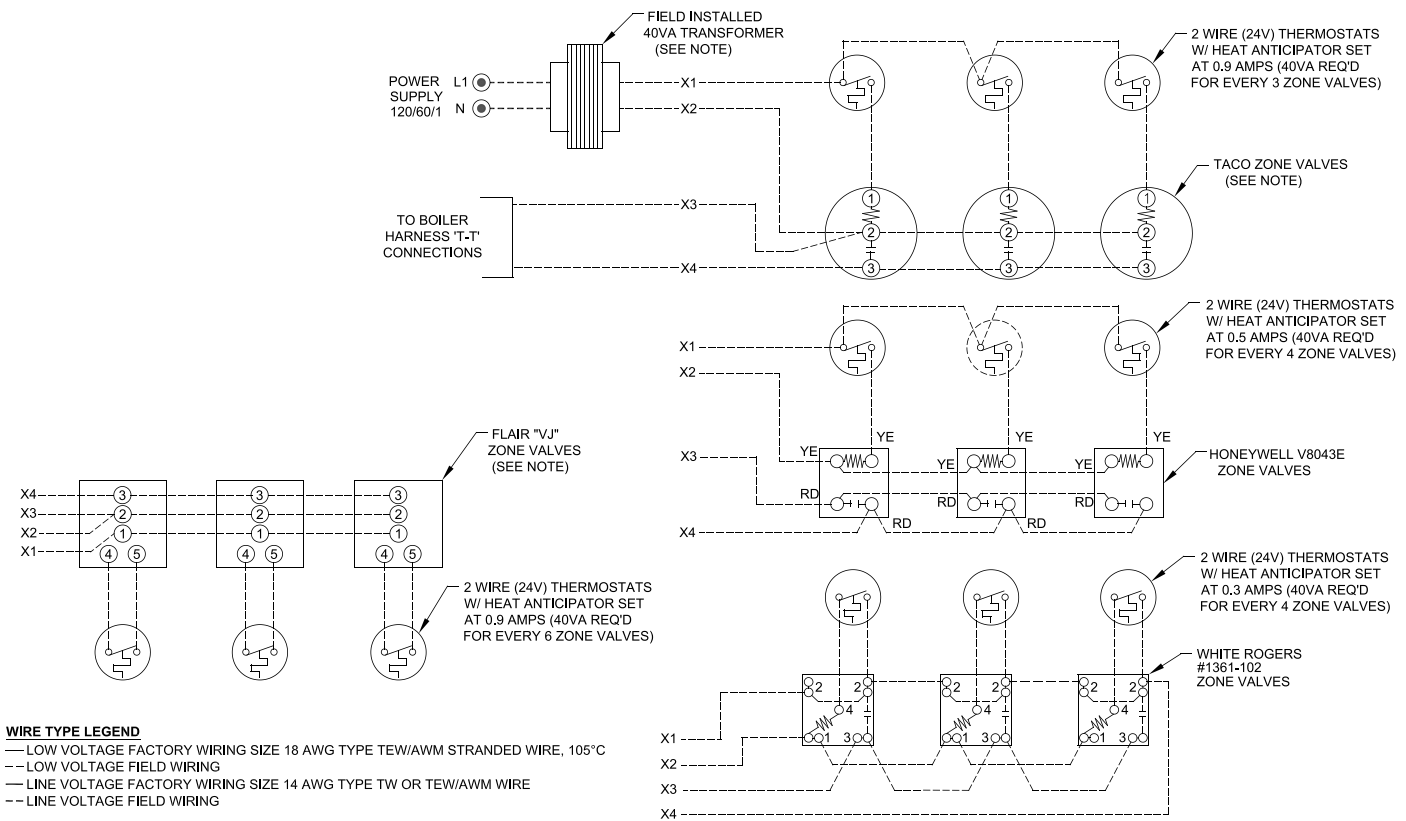

Figure 9-3: Wiring Schematic, Zone Valves
4. For installations using zone valves, provide separate transformer for zone valve wiring. Consult zone valve manufacturer for assistance. See Figure 9-3.